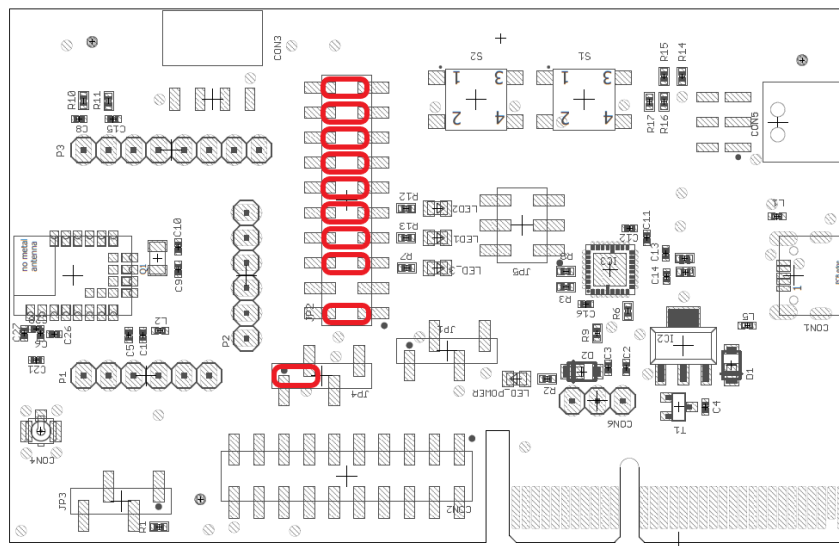

Figure 2: Default jumper placement of the Proteus-III evaluation board. Red means "jumper must be set".
- the Proteus-III evaluation board with jumpers set as specified in figure 2. Other jumpers not set.